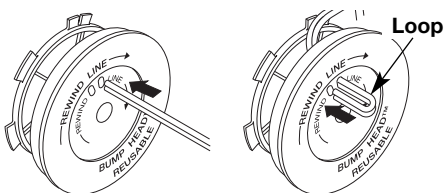

Fig. 18
8. Take approximately 10 feet (3 m) of new trimming line. Insert one end of the line through one of the two holes in the inner reel (Fig. 18). Pull the line through the inner reel until only about 4 inches is left out.
9. Insert the end of the line into the open hole in the inner reel and pull the line tight to make the loop as small as possible (Fig. 18).